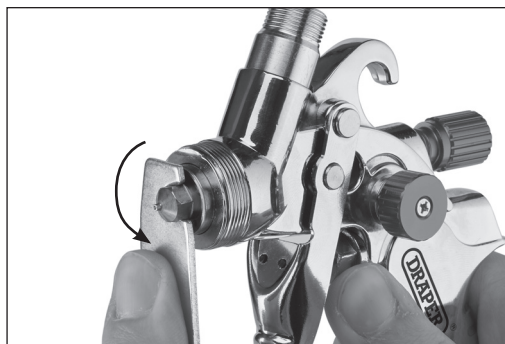

Fig. 3
2. Use the M5 spanner (H4) to unscrew and remove the nozzle head (13) (Fig. 3).